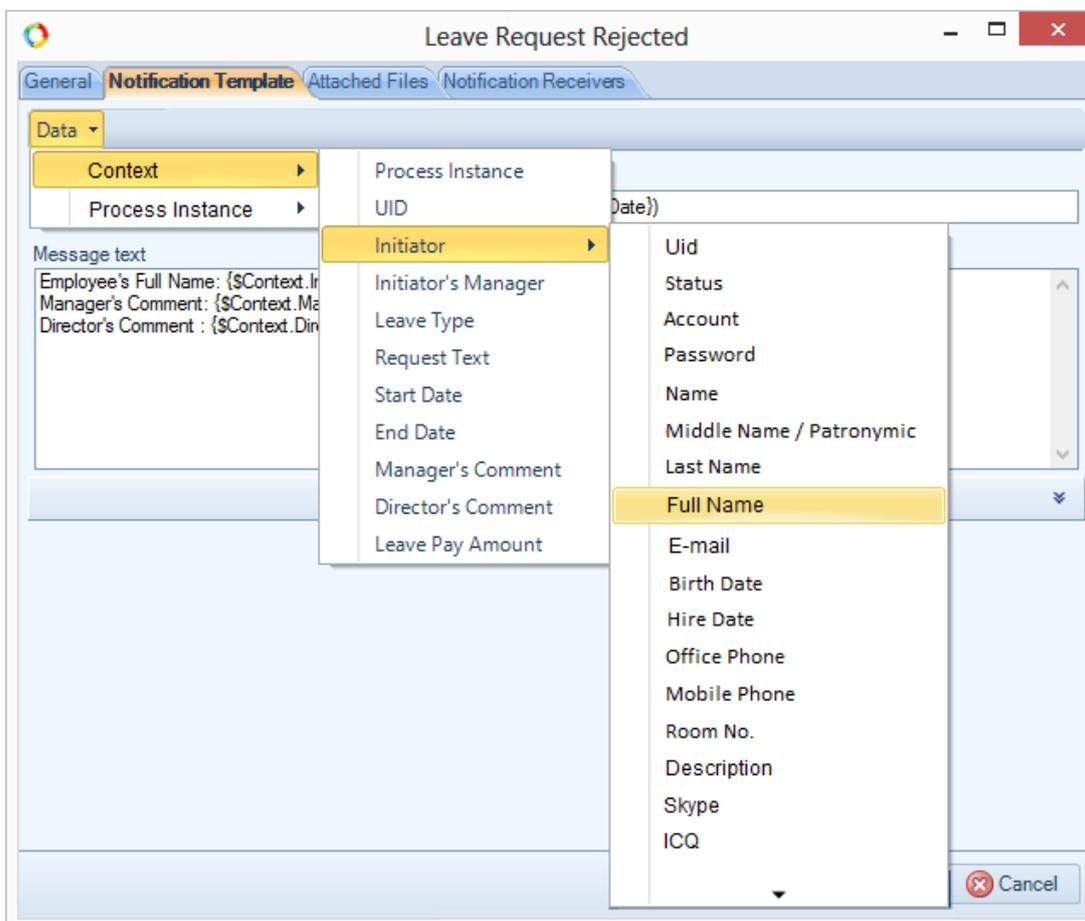

Fig. 76. Configuring the notification template
E.g., to insert the Initiator's full name, click **Context** → **Initiator** → **Full Name**; to insert the Manager's comment, click **Context** → **Manager's Comment** (Fig. 76).
ELMA will generate the text blocks enclosed in curly brackets { }. When sending a message, the system will use these text blocks to fill in the respective message fields (Fig. 76).